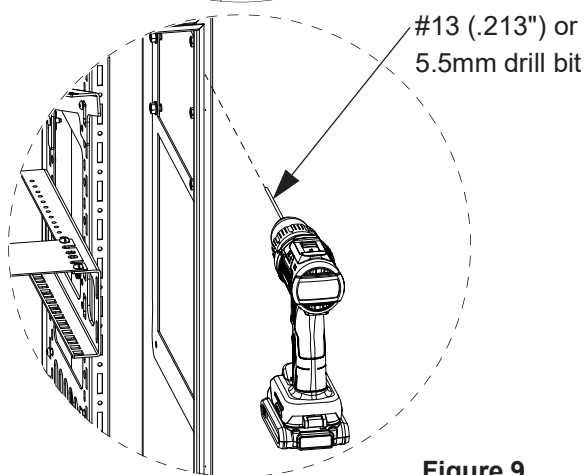

Figure 9
3. Drill or punch out new hole locations using a #13 (.213) or 5.5mm drill bit. The locations are marked with a small indent on the opposite side of the enclosure. See Figure 9.
4. Turn door 180° (See Figures 9 & 11) and mount to the opposite side of the enclosure. Ensure sealing washers are between the hinges and the enclosure body. Apply silicone under the hinge and body. Starting at the top, reinstall hinges and screws on opposite side of the enclosure. Apply silicone under the flat washers. Torque door hinge nut to 35.4 ±5.0 in-lb (4.0 ±6 N-m).